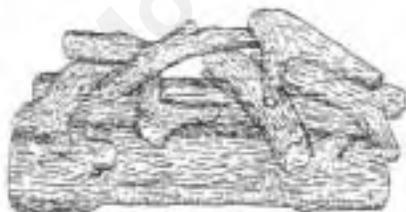

Figure 40
Carefully position and center the fiber logs onto the burner with the longer, scalloped and charred log in front and the shorter log in the back. Position the front log (A) with the cutout on its back fitted around the burner tube and the holes on its bottom side engaged with the tabs. Position the rear log (B) matching the cutout on its bottom with the position of the pilot and the holes on its bottom side engaged with the tabs. **Ensure that the burner bracket mounting tabs are located within the holes of these logs.** Place the smaller fiber logs (twigs) across the lower logs in the manner illustrated (Figure 40).
Position the center left twig (1) first on two pins, one in the front log (A) and one in the rear log (B). Position the center left twig (2) over the two pins, one in the rear log and one in the front log. Then position the center right twig (3) on to the pins in the rear and front log. Place center right twig (4) on the remaining two pins of the front and rear logs. Place top left twig (5) over the pin on the center left twig (1) as shown in Figure 40. Place top center twig (7) over the pins on the (2) and (4) twigs. Place top right twig (5) over the pins on twigs (4) and (7). Top center twig (7) and the front log will have some flame impingement, all other logs and twigs should not impinge on the flames.